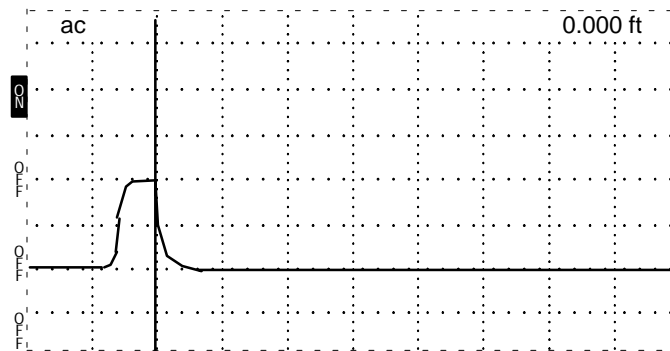

Figure B-1: Start-up Measurement Display
1. Turn the 1502C power on. The display should look very similar to Figure B-1.